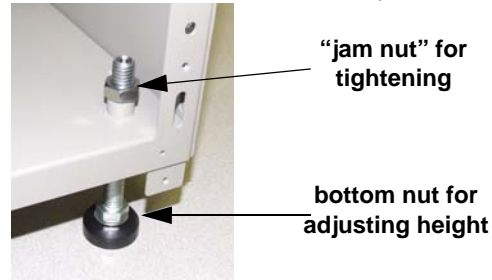

Figure 4.7 Jam nut
- h. Tighten all of the feet firmly to their final positions using a wrench on the jam nuts (identified in Figure 4.7 above).